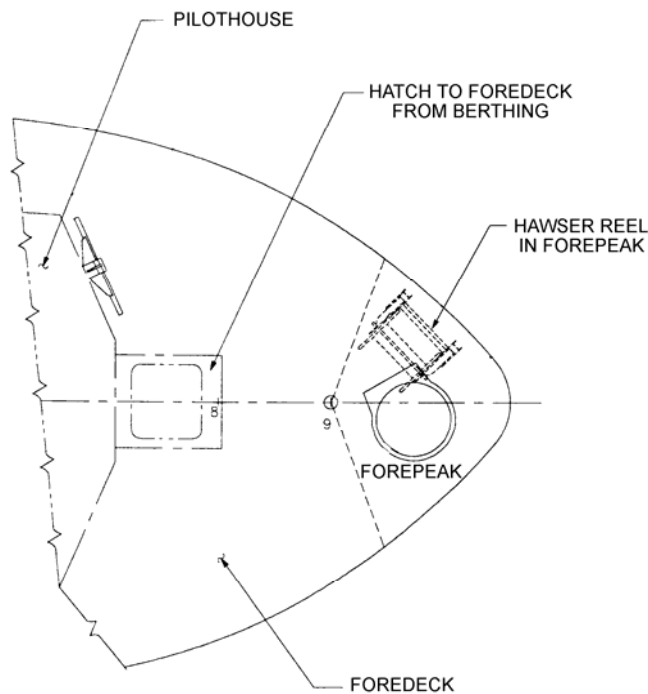

Figure 2-17
E.5. Location One hawser reel is mounted inside the forepeak, port side forward. (See **figure 2-17.**)